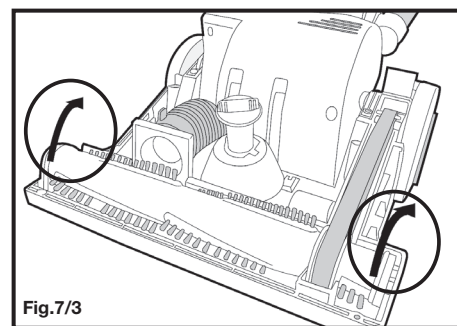

Fig.7/3
2. Using a Phillips screwdriver, remove the four (4) screws on the underside of the cleaner (Fig.7/1) to release the top cover of the vacuum head (Fig.7/2).
3. Lift the right side of the brushbar and then the left hand side and remove the brushbar from the vacuum cleaner head (Fig.7/3).